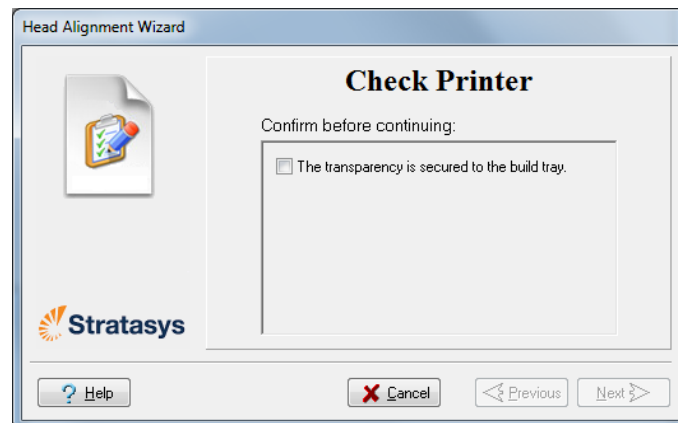

Figure 6-51 Head Alignment wizard—steps 7–9
9. In the wizard screen shown in Figure 6-51, select the *Transparency removed* check box, and click **Next**.